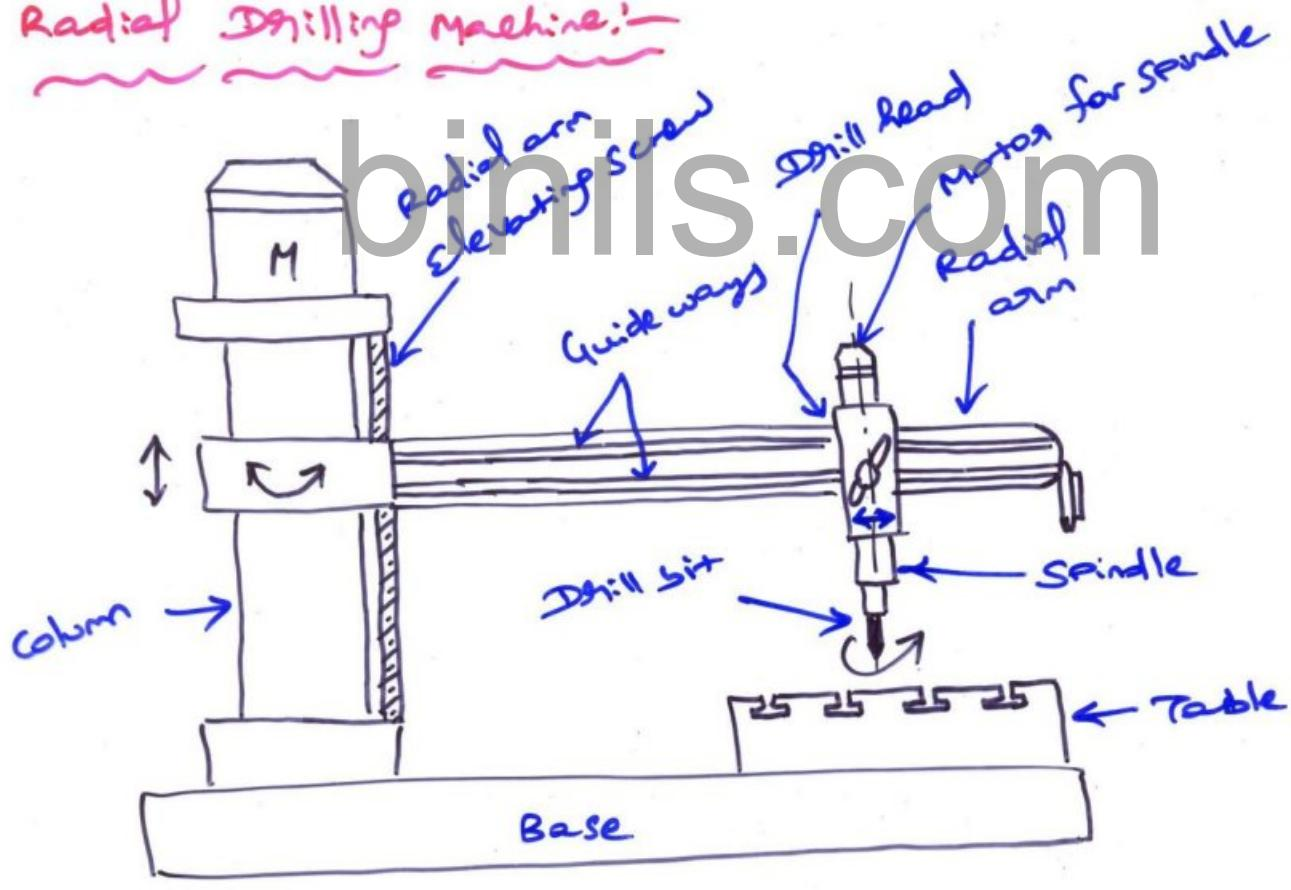

Fig: 4
- ④ Radial drilling machine:- [See: Fig.4]